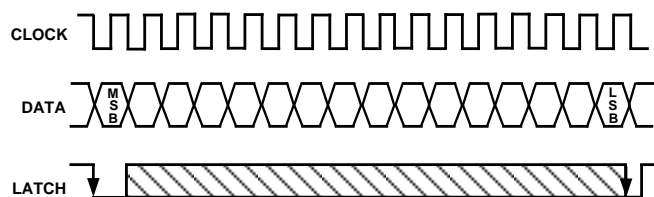
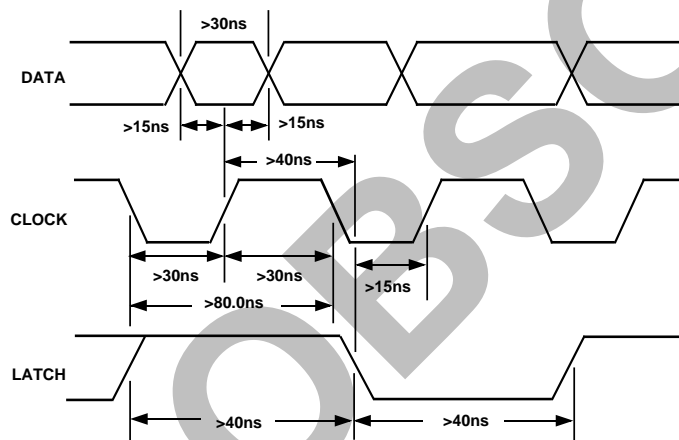

Figure 5. Signal Requirements for AD1851
Figure 6. Timing Relationships of AD1851 Input Signals
Data is transmitted to the AD1851 in a bit stream composed of 16-bit words with a serial, MSB first format. Three signals must be present to achieve proper operation. They are the Data, Clock and Latch Enable (LE) signals. Input data bits are clocked into the input register on the rising edge of the Clock signal. The LSB is clocked in on the 16th clock pulse. When all data bits are loaded, a low-going Latch Enable pulse updates the DAC input. Figure 5 illustrates the general signal requirements for data transfer to the AD1851.
Figure 6 illustrates the specific timing requirements that must be met in order for the data transfer to be accomplished properly. The input pins of the AD1851 are both TTL and 5 V CMOS compatible. The input requirements illustrated in Figures 5 and 6 are compatible with data outputs provided by popular DSP filter chips used in digital audio playback systems. The AD1851 input clock can run at a 12.5 MHz rate. This clock rate will allow data transfer rates for 2×, 4× or 8× or 16× oversampling reconstructions.